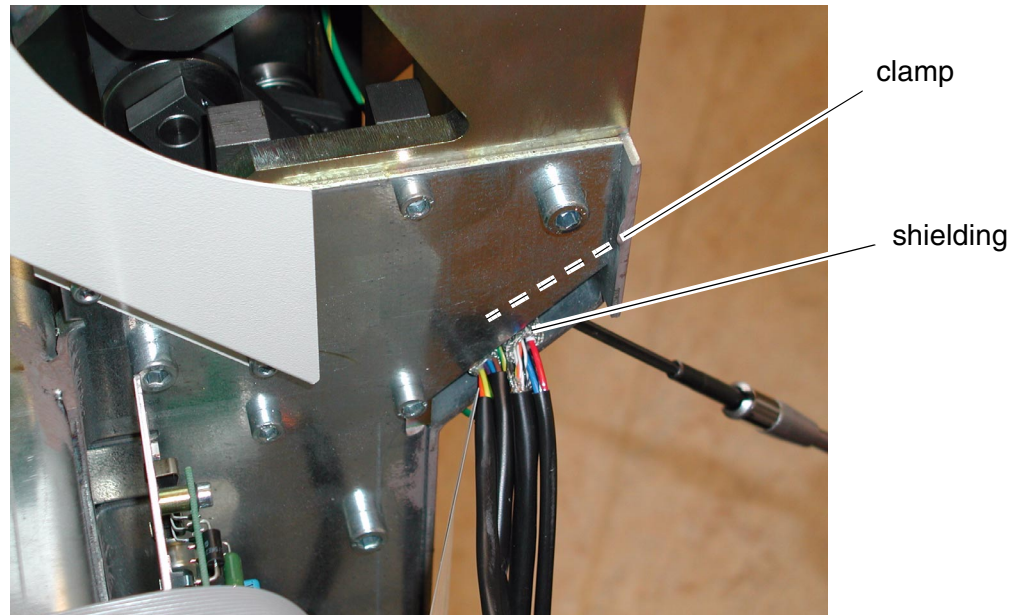

Fig. 49 Remounting clamp
24. Clamp up the cables from the single tank in the clamp (Fig. 49). Make sure the clamp presses over the shielding in the cable.